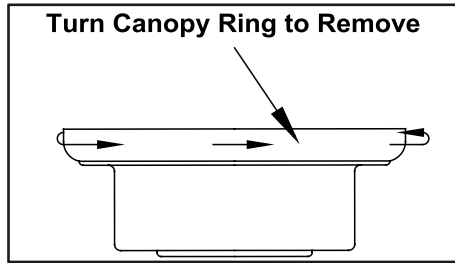

Figure 5
1. Remove the canopy ring from the canopy by turning the ring to the right until it unlocks. (Figure 5)
1. Remove the canopy ring from the canopy by turning the ring to the right until it locks. (Figure 5)